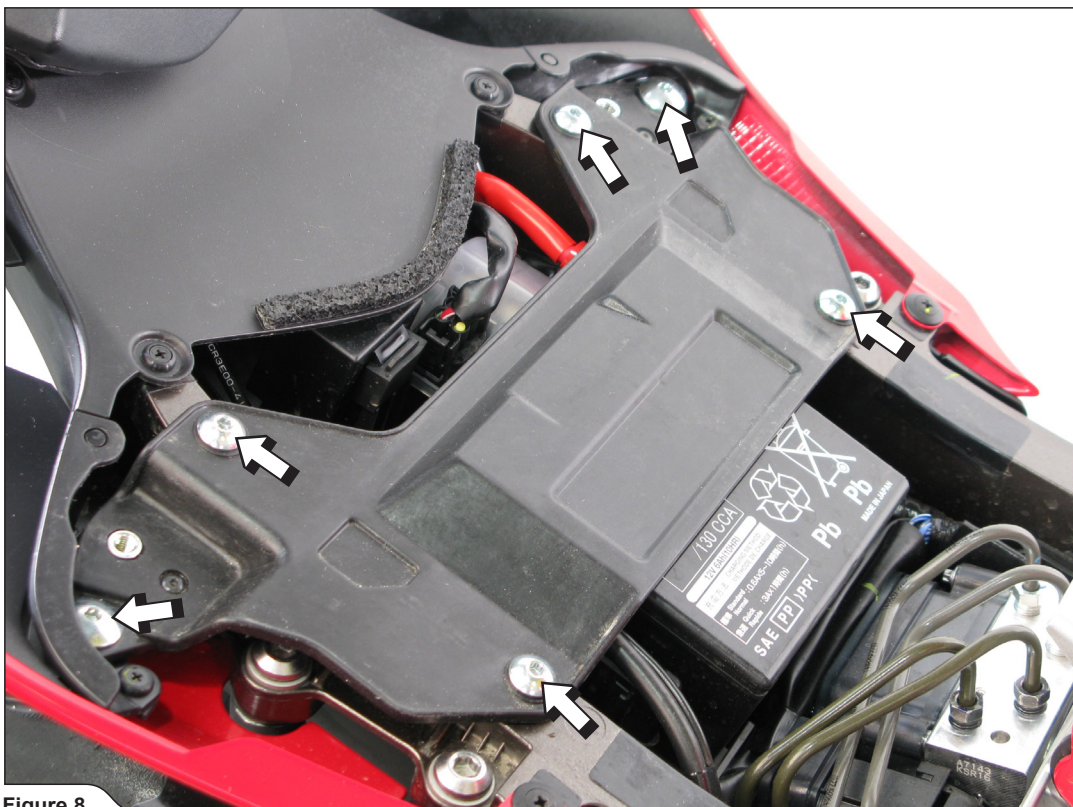

Figure 8
8. Unscrew marked bolts and remove plastic battery cover off the motorcycle (**Figure 8**).